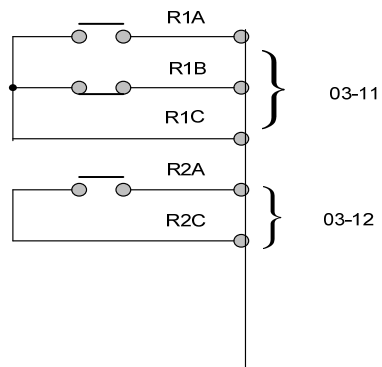

Figure 4.3.72 Over-torque / less torque detection signals use multi-function digital signal output terminal
- (1) For V / f control or V / f + PG control mode, it is 100% of inverter rated output current.
- (2) For SLV or SV control mode, the motor output torque is 100% of the rated torque.
- . Over-torque /less torque detection signals can be output to multi-function digital output terminals (R1A-R1C, R2A-R2C), by setting parameters from 03-11 to 03-12 (multi-function digital output terminal function selection) to 12, 25. Refer to the following figure 4.3.72 for relevant parameters.